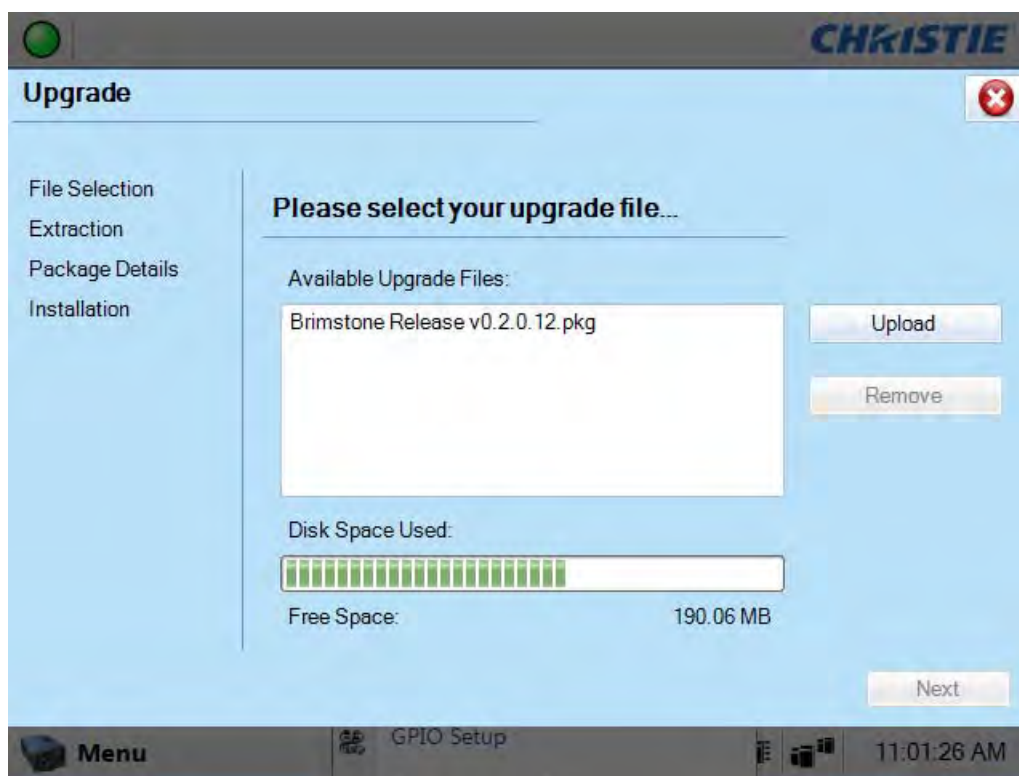

Figure 3-20 Upgrade: File Selection Window
- Insert the USB drive containing the upgrade package into the USB port on the TPC. Navigate to the **Administrator Setup: Marriage** window and click the **Upload** button. (Figure 3-20). This launches a file selection dialog for you to navigate and select this file. Once complete, the system automatically advances to the **Extraction** window and begins extracting the upgrade package.
- From an FTP client, enter the projector IP address and enter the user name and password. Once connected, copy the upgrade package from the FTP site to the root folder of the projector. The upgrade package should display in the **Available Upgrade Files** region of the **File Selection** window. (Figure 3-20). Select the upgrade package and click the **Next** button to advance to the **Extraction** window. **NOTE:** *After copying several upgrade packages to the root folder, an alarm will occur if the disk space becomes full. Navigate to the root folder and delete the older upgrade packages. Once removed, copy the current upgrade package again.*